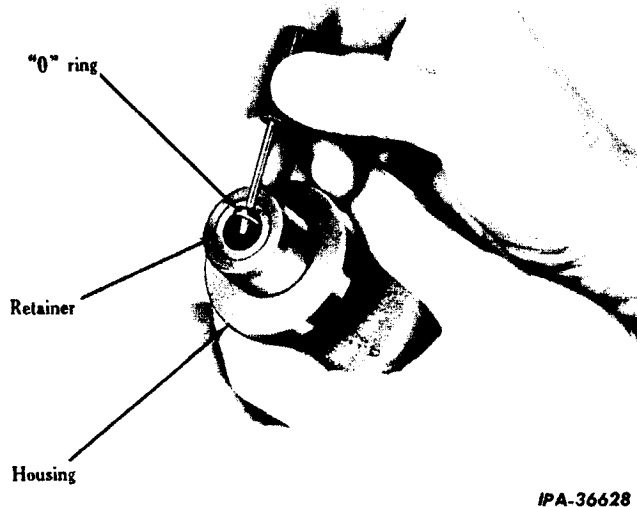

Fig. 9 - Removing Drive Shaft "O" Ring.
18. Remove the "O" ring from the retainer at the base of the housing (Fig. 9).